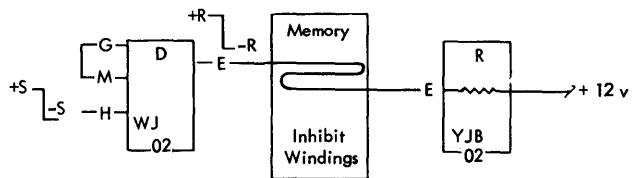

Figure 4-33. Alloy Driver
These alloy drivers are used as memory inhibit (Z) drivers, MARS bit drivers, MARS read drivers, and MARS write drivers (see Figure 4-33). When the inputs are at +S, a +R level is at the output. When the inputs are at -S, the output goes to a -R level.